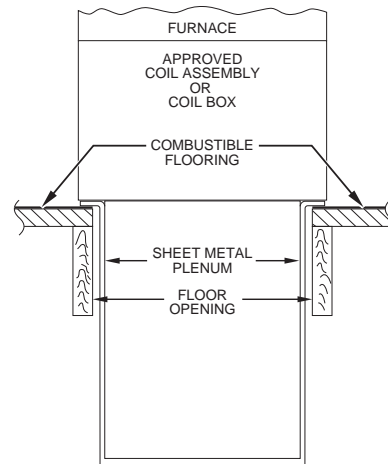

Fig. 13 – Furnace, Plenum, and Coil Assembly or Coil Box Installed on a Combustible Floor
4. If downflow subbase KGASB is used, install as shown (see Table 12). If Coil Assembly Part No. CNPV, CNRV, CAP and CNR or Coil Box Part No. KCAKC is used, install as shown (see Fig. 13).